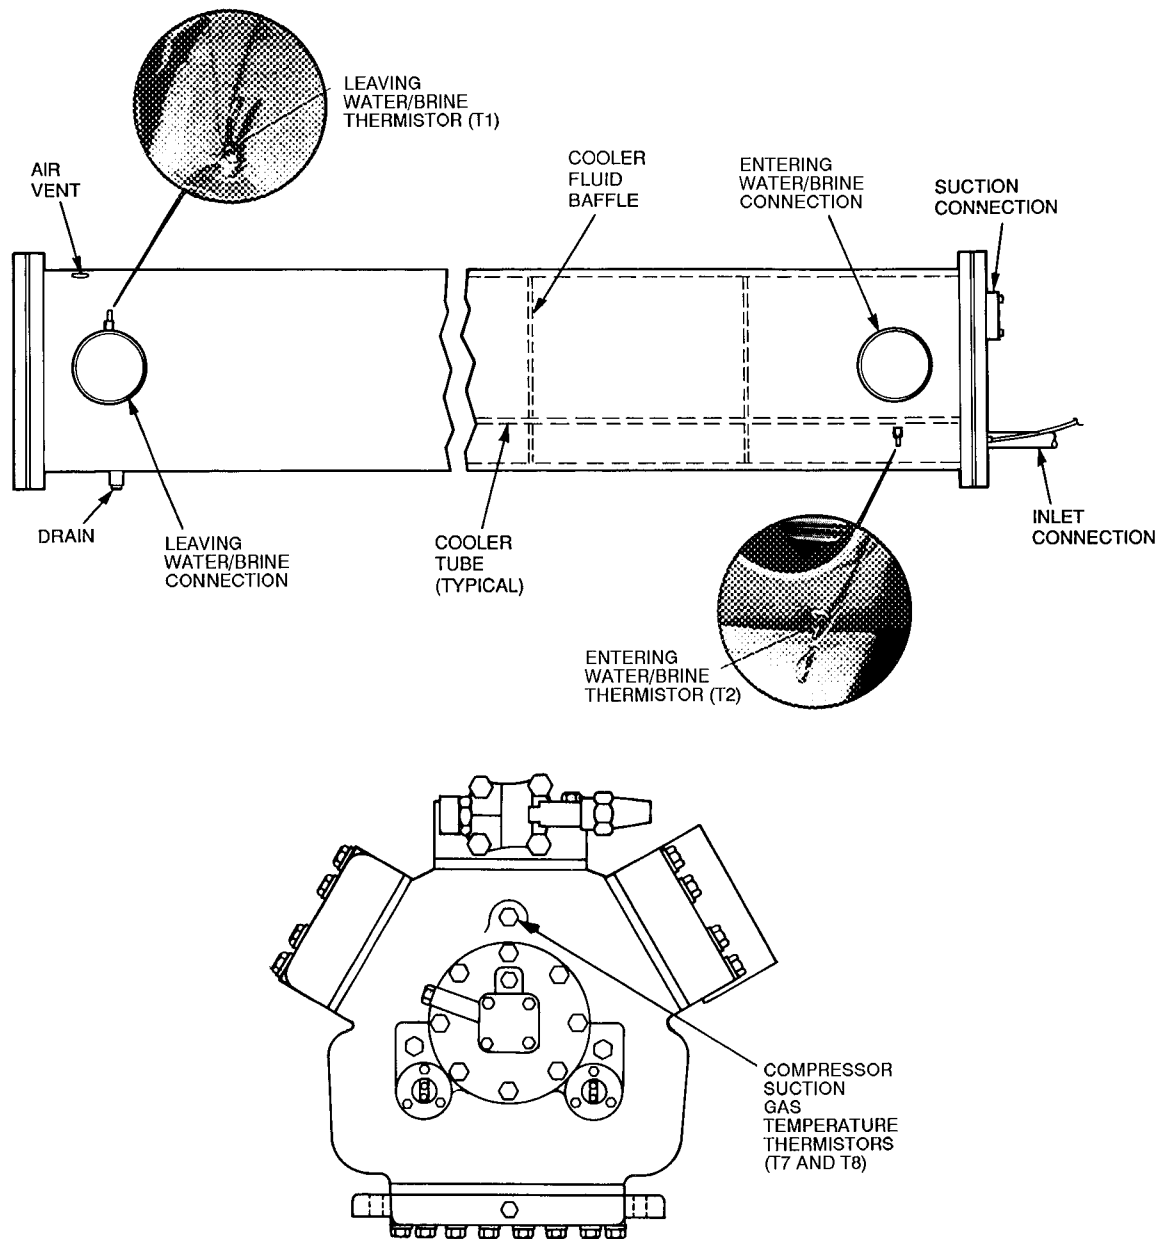

**Fig. 15 – Thermistor Locations
- c. Make sure thermistor leads are connected to proper pin terminals at J7 terminal strip on processor module and that thermistor probes are located in proper position in refrigerant circuit. See Fig. 15 and 16.